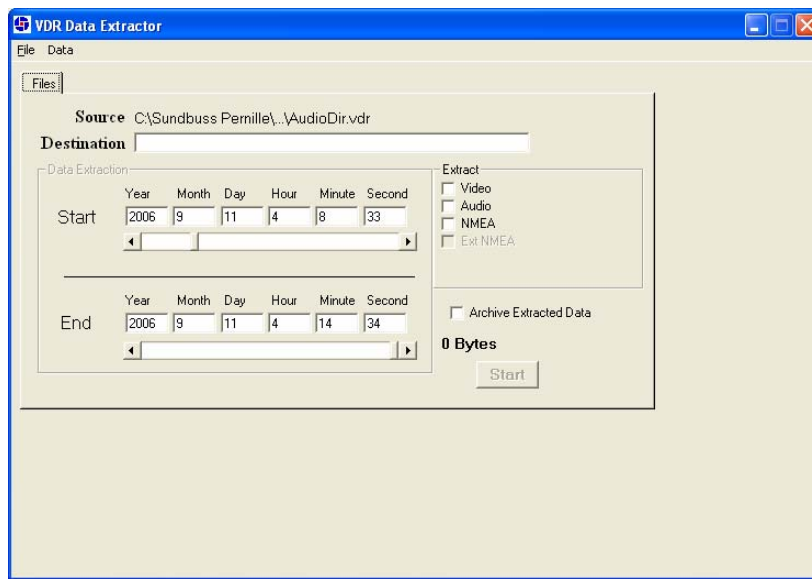

Figure 6-38 – Data Extraction Window
2. The Data Extraction window will open (see *Figure 6-38 – Data Extraction Window* below). This may take a number of seconds. The start time will automatically appear as the point in the playback where the Data Extraction window was opened.